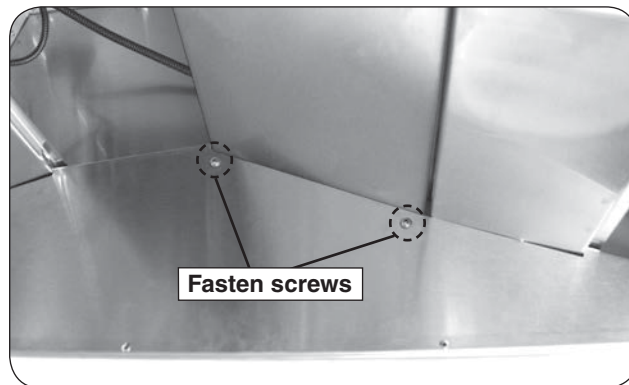

Fig. 20-2 Secure baffle
2. Align the 4 screw holes (2 on each side), then secure the baffle in place using a medium Phillips screwdriver and the supplied 8-32 x 3/8" screws (that were originally removed at beginning of installation). See Fig. 20-2.